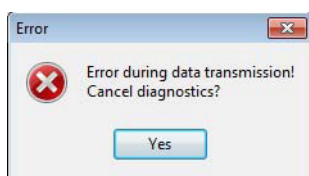

Figure 11. Data transmission error
- Confirm the error message that appears after the connection is interrupted with „Yes“, see Figure 11.